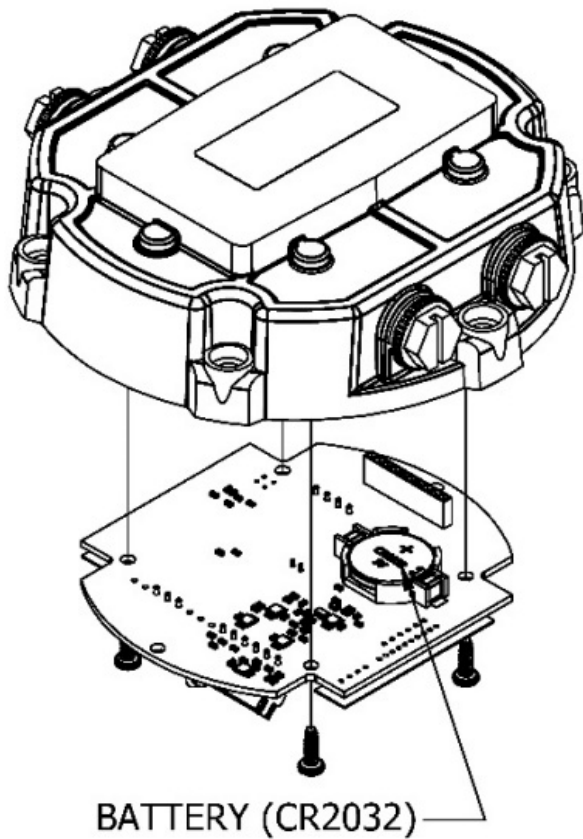

Figure 13
- Remove and replace the coin cell battery (CR2032) on the backside of PC board (see Figure 13).